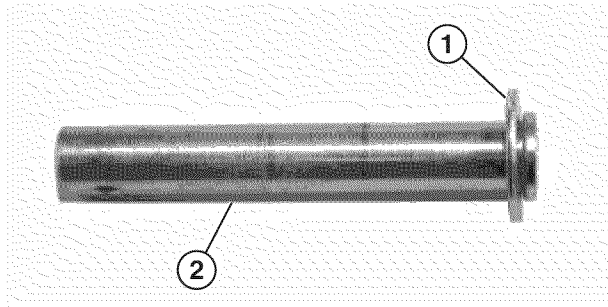

Figure 9 – Installing Wheel Axle Washer WP2800
- WP2800 only: Slide the wheel axle washer onto the wheel axle pin (see Figure 9).